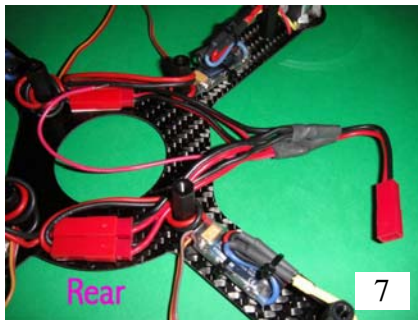

**Fig 1. Motor Identifications and Directions**
It is very important to connect the wires correctly in order that the motors run in the right directions. For clockwise rotation, connect **red – red, black – black** and **yellow – yellow**. To get anticlockwise rotation, swap any two wires. Figure 1 below details which motors must run clockwise, and which anticlockwise. Please note the curved side of the frame centre platform, which is designated as the rear. Please take care to get the connections right!
11) Next, plug the ESC control leads onto the terminal pins labelled “Motors” at the front of the circuit board. Each 3-way terminal is numbered, and these numbers correspond to the motor numbers in Fig 1. The **orange** wires should be positioned inwards towards the board. Also, plug the extra red wire from the power distribution lead, into the small socket labelled “Bat sense”, located at the edge of the board behind the motor connectors. Arrange all the wiring neatly with a cable tie (Photo 13).
With all four motors running, try raising the throttle gradually all the way. The motors should increase in speed to a high pitched whine. Reduce the throttle to a low setting and check that the motors are running in the correct directions according to Figure 1 – it is easy to tell by gently resting a finger against the outer cylindrical surface of each motor in turn. If any of the motors is turning the wrong way, just swap any two of its three supply wires to correct it – disconnect the battery first!